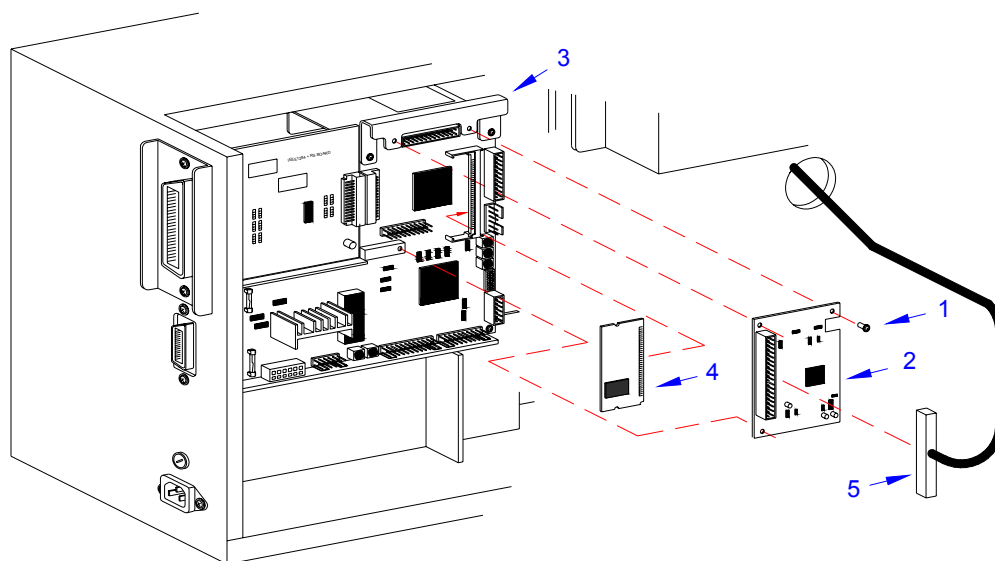

Figure 4-3, Flash Card Installation
- 3 Remove three screws (1, Figure 4-3) securing daughter board (2) to main circuit board (3).
- 4 Disconnect daughter board (2) from circuit board (3).
- 5 Insert flash card (4) into its reserved brackets on main circuit board (3).